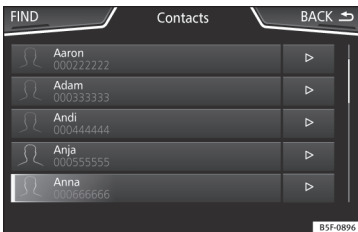

Fig. 245 Contacts Menu.
- Press the **Search** function button » **Fig. 245** to open the search window. »
- Press the function button ▷ »» Fig. 245 located next to the entry on the contacts list.